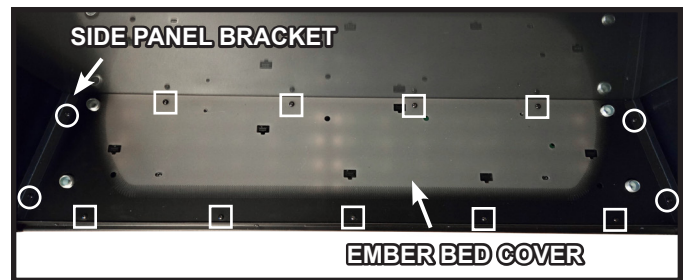

Figure 12 Side Panel Brackets and Ember Bed Screw Locations
6. Remove the two (2) side panel bottom brackets by removing the two (2) screws attaching each of them. See Figure 12.
7. Remove the ember bed cover by removing all of the ST4X8 screws attaching it to the appliance at the front and back of the cover. See Figure 12.